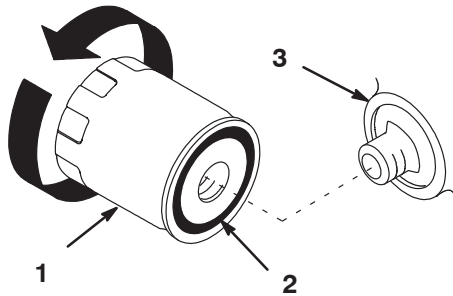

Figure 34
2. Remove the old filter and wipe the filter adapter (Fig. 34) gasket surface.
5. Apply a thin coat of new oil to the rubber gasket on the replacement filter (Fig. 34).
6. Install the replacement oil filter to the filter adapter. Turn the oil filter clockwise until the rubber gasket contacts the filter adapter; then tighten the filter an additional 1/2 turn (Fig. 34).